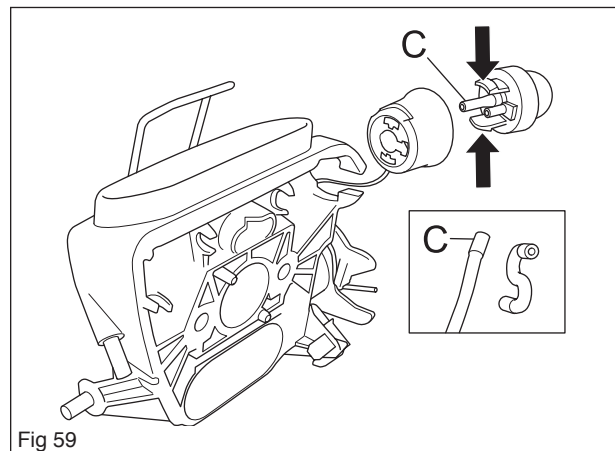

Fig 59
2. Loosen suction hose C and return hose from the fuel pump. See figure 59.
1. Snap the fuel pump in place in the filter holder. See figure 59.